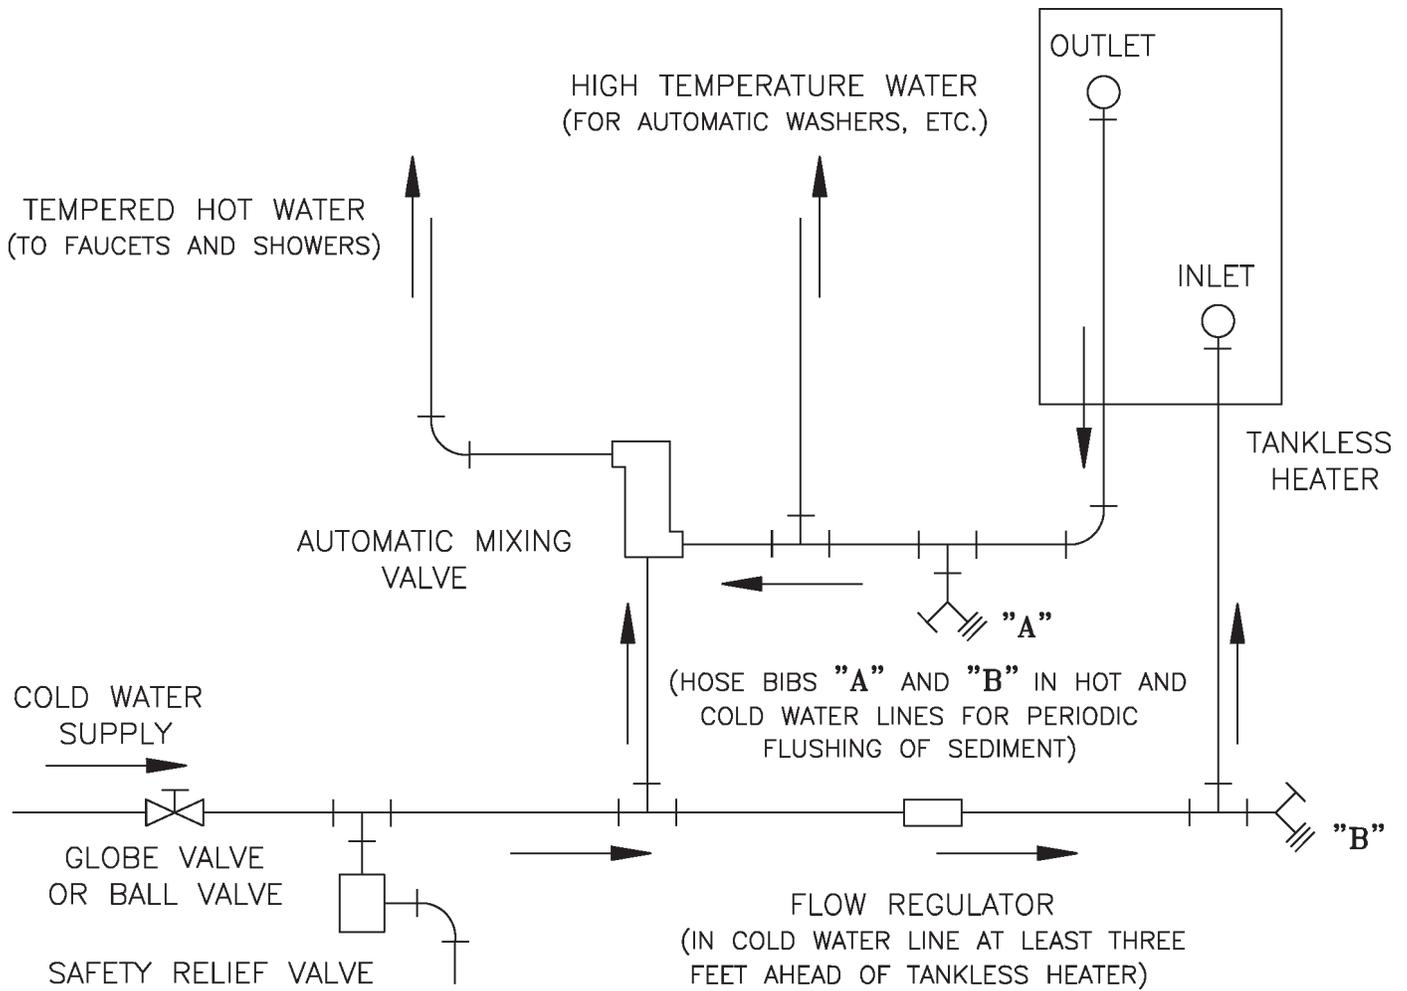

Figure 5-1: Schematic Tankless Heater Piping
- A. **CONNECT TANKLESS HEATER PIPING** as shown in Figure 5-1. See Table 5-2 for Tankless Heater Rating.